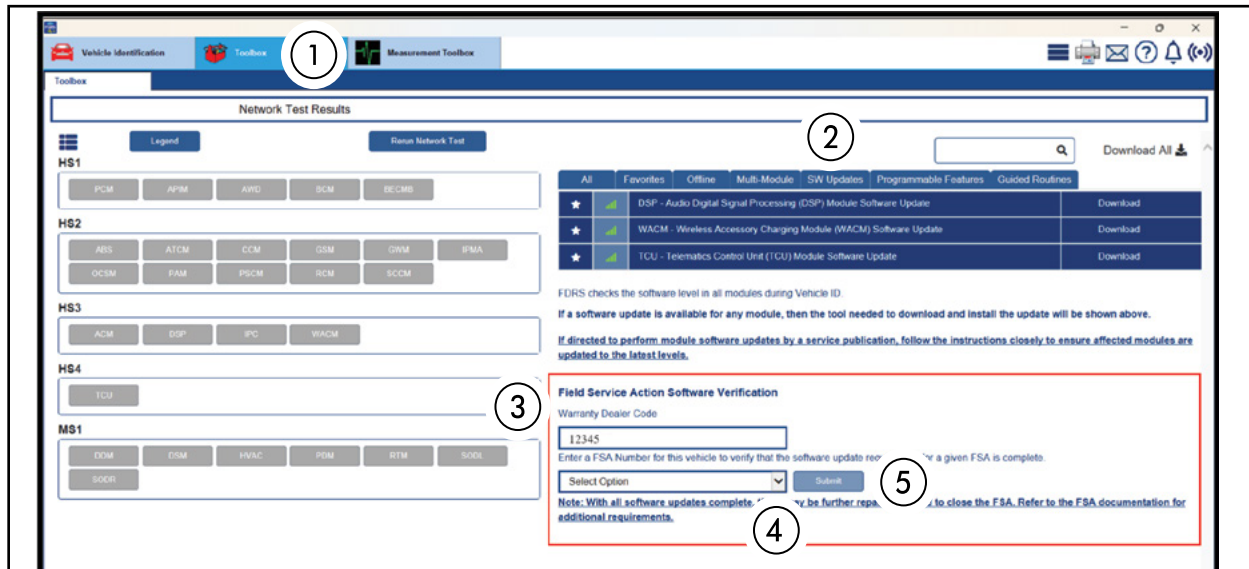

FIGURE 3
10. Select the **Toolbox** (1) tab. See Figure 3.
11. Select the **SW Updates** (2) tab. See Figure 3.
12. **Warranty Dealer Code** (3) - Change the displayed PA code as necessary. See Figure 3.
13. Select the **FSA** (4) from the drop-down menu. See Figure 3.
14. Select **Submit** (5). See Figure 3.